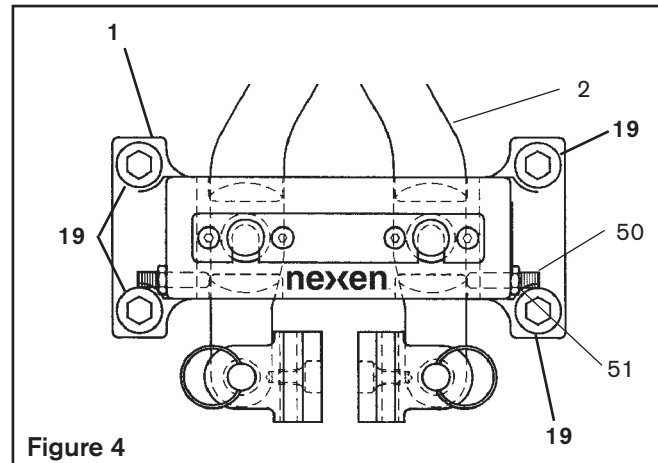

Figure 4
Set Screws (Item 50) and Nuts (Item 51) are provided to hold Arms (Item 2) in place when the BD Caliper Brake is used on vertical shaft installations (See Figure 4).
3. Align the customer supplied support with the Main Frame (Item 1) mounting holes (See Figure 4).
If shims are used under the Main Frame (Item 1) mounting pads, care must be taken to prevent warping of the Main Frame when tightening the Cap Screws (Item 19) (See Figure 4).
5. Tighten the Cap Screws (Item 19) to 67.8 Nm [50 ft-lb] torque (See Figure 4).